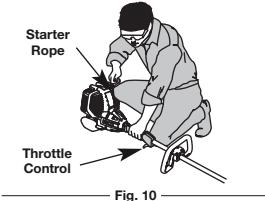

Fig. 10
4. With the unit in the starting position, **do not squeeze the throttle control** (Fig. 10). Pull the starter rope out a short distance, until you feel some resistance. This is usually around 2-4 inches. Then pull the rope smoothly and briskly. Repeat this 5 times. The engine should start.
**WARNING:** Avoid accidental starting. Make sure you are in the starting position when pulling the starter rope (Fig. 10). To avoid serious injury, the operator and unit must be in a stable position while starting. Make sure that any Add-On item is installed correctly and secure before starting the unit.